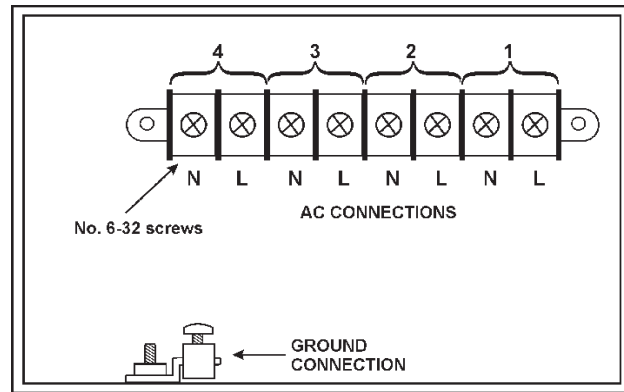

Figure 7 – AC & Ground Connections
15.2 Connection Details – A rear view of the RRS2U-23 is shown in figure 7 below.